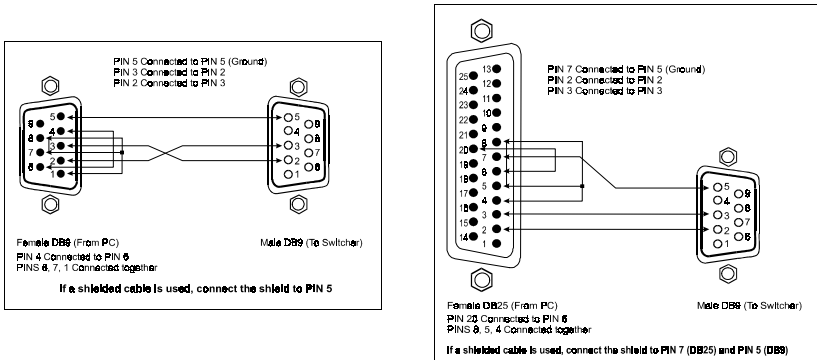

Figure 1: Connecting a PC without using a Null-modem Adapter
- Connect the RS-232 DB9 port on your PC to the RS-232 DB9F port on the standalone **CVG-SW61CS** unit (defined as Master¹), as Figure 1 illustrates (depending on whether the PC has a 9-pin or 25-pin connector)
- Connect the RS-232 DB9 port on your PC to the RS-232 DB9F port on the first (Master) **CVG-SW61CS** unit (depending on whether the PC has a 9-pin or 25-pin connector), as Figure 1 on page 3 illustrates